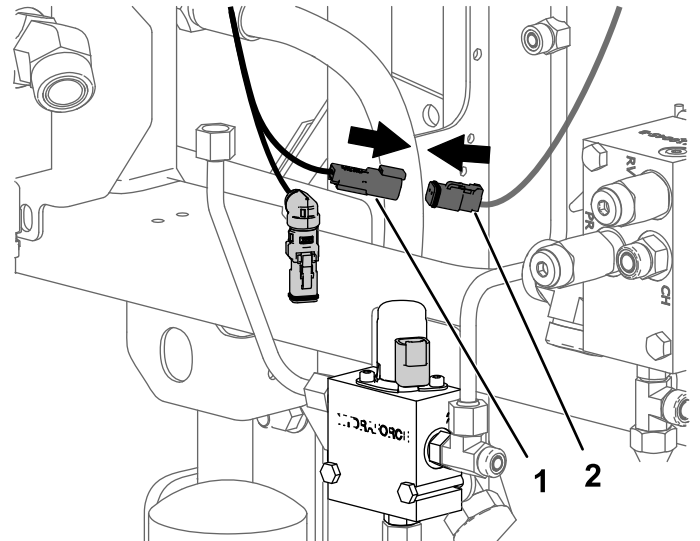

Figure 30
11. Connect the plug you just removed into the free socket on the new wire harness (Figure 30).